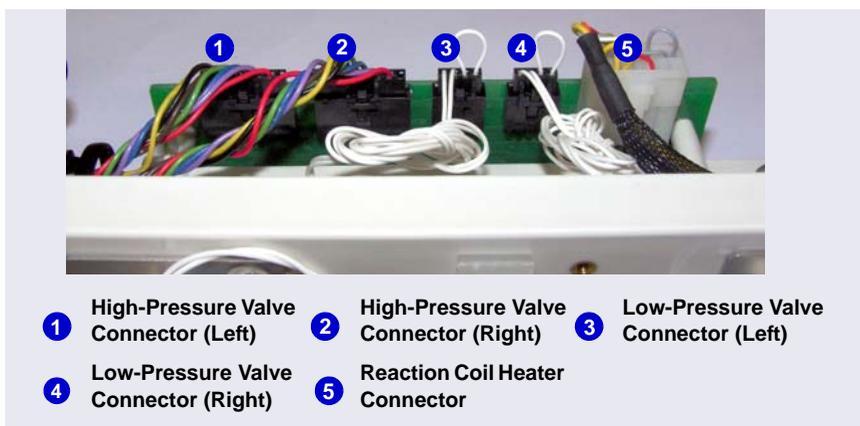

Figure B-26. Connections to the AM Prep Board
9. Two high-pressure valve cables are connected to the AM prep board (see Figure B-26). Uncoil the appropriate valve cable and plug it into the connector on the valve.
2. While holding the valve mounting plate firmly against the AM, tighten the captive thumbscrew (see Figure B-26).
4. Plug the valve connector into the appropriate connector on the AM prep board (see Figure B-26).
3. Route the heater cable through the cutout to the right of the heater. Plug the cable into the **HEATER** connector on the AM prep board (see Figure B-26).